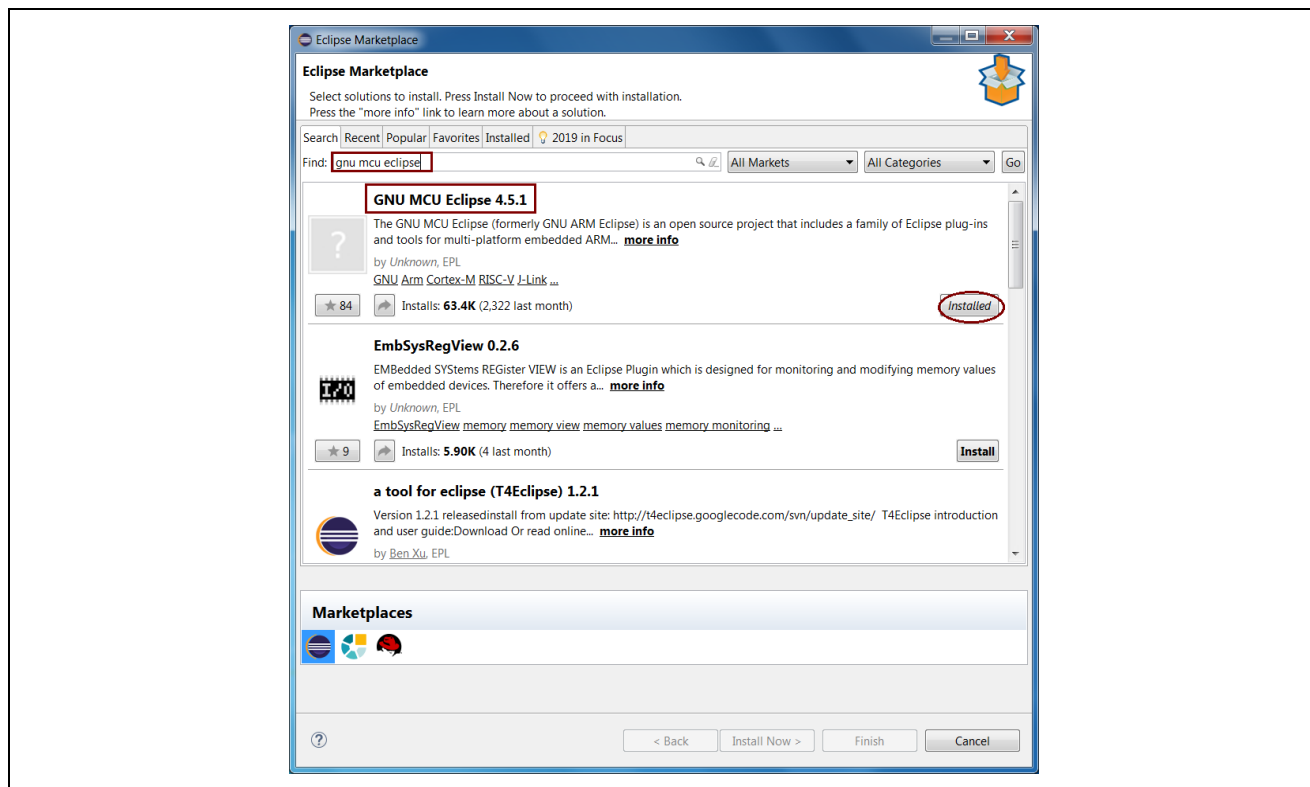

Figure 1-2 Install Plug-in
2. Input “gnu mcu eclipse” in the **Find** field, and then the search result will be shown as Figure 1-2. Select the latest version and click the **Installed** button to install the required plug-in.